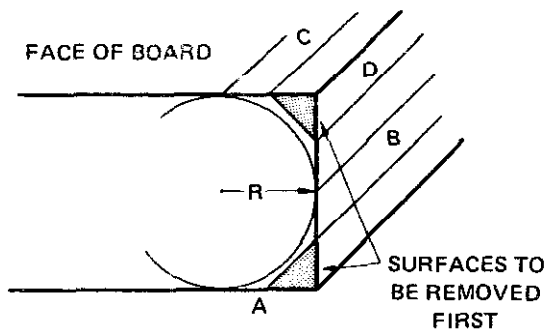
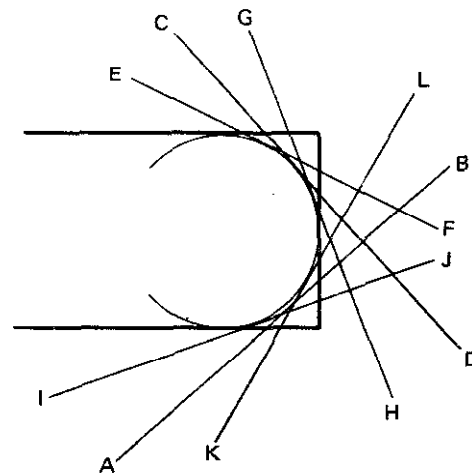

Fig. 8-47 Lay out of nosing.
Fig. 8-48 Angles of plane in planing.
1. To plane a nosing or round on the edge of a board, lay out an arc on the end of the board, the size of the required nosing. See figure 8-47.
3. Plane down to the lines A, B, and C, D, figure 8-47, by tilting the plane to 45-degree angles shown by the lines AB and CD in figure 8-48.
4. Plane off corners A, B, C, and D, figure 8-47, by tilting the plane to the angles shown in lines EF, GH, IJ, and KL, figure 8-48.